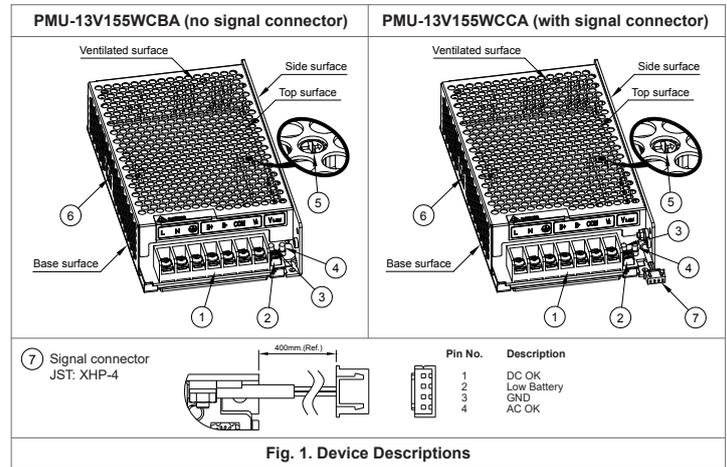

Fig. 1. Device Descriptions
- Must select correct AC input voltage range through selectable switch before turning on (Refer to Fig. 1, (6)).
Refer to Fig. 1.:
- ① Input & Output terminal block connector
- ② DC voltage adjustment potentiometer (12Vdc - 14Vdc)
- ③ Green LED ON = DC OK (Normal operation through mains supply or through battery when operating in buffering mode)
- ④ Red LED ON = Battery reverse polarity
- ⑤ Battery charging current adjustment potentiometer (Factory Setting: 1A)
*Max charging current shall not exceed 1.5A (Refer to Fig. 1, (5)).*
- ⑥ AC selectable switch
- ⑦ Signal connector - JST: XHP-4 (for PMU-13V155WCCA only)